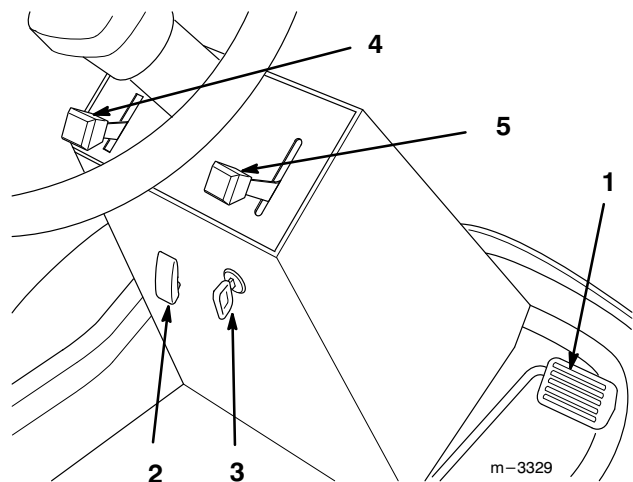

Figure 5
2. Release pressure on the traction pedal to stop movement (Fig. 5).
3. To engage lift cover and move the PTO switch to the “ON” position (Fig. 5).
1. Closing the cover moves the PTO switch to the “OFF” position (Fig. 5).